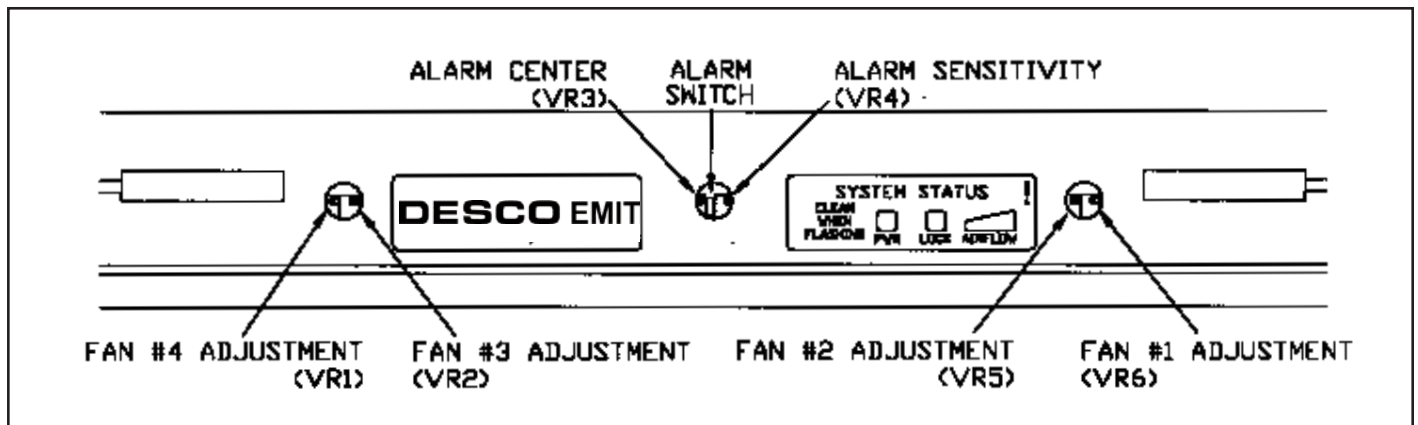

Figure 6. Calibrating C/E Ionizer
See figure 6.
6. See figure 6. For VR (variable resistor) locations. Fans from right to left side are labeled 1 to 4, VR from right to left side are labeled 6, 5, 2 and 1 . So if you have the CPA under fan 1, you are going to adjust VR6. Adjust VR6 so balance on CPA reads 0Volts @ +/-15Volts. Move the CPA from fan 1 to next fan, fan 2 and adjust VR5 to 0Volts @ +/-15Volts, repeat these set for all fans. All fans should be at 0Volts @ +/- 15Volts.